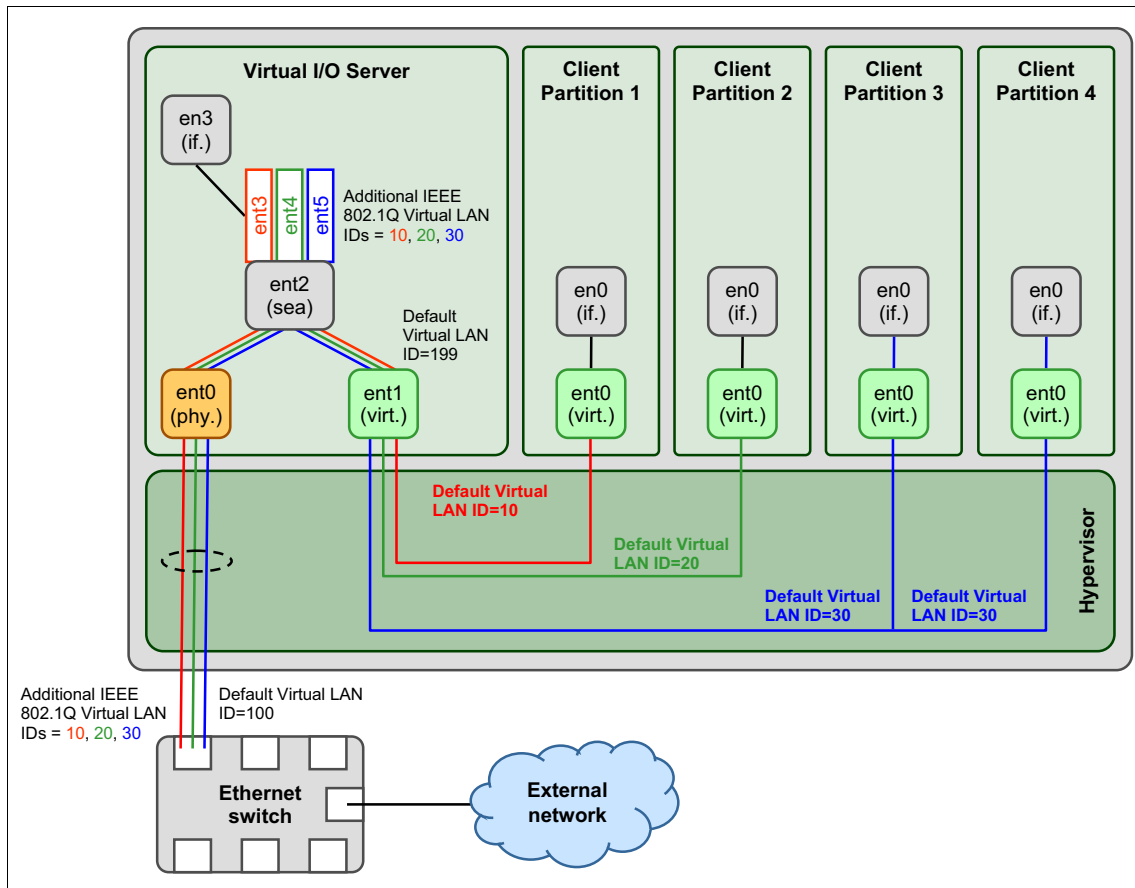
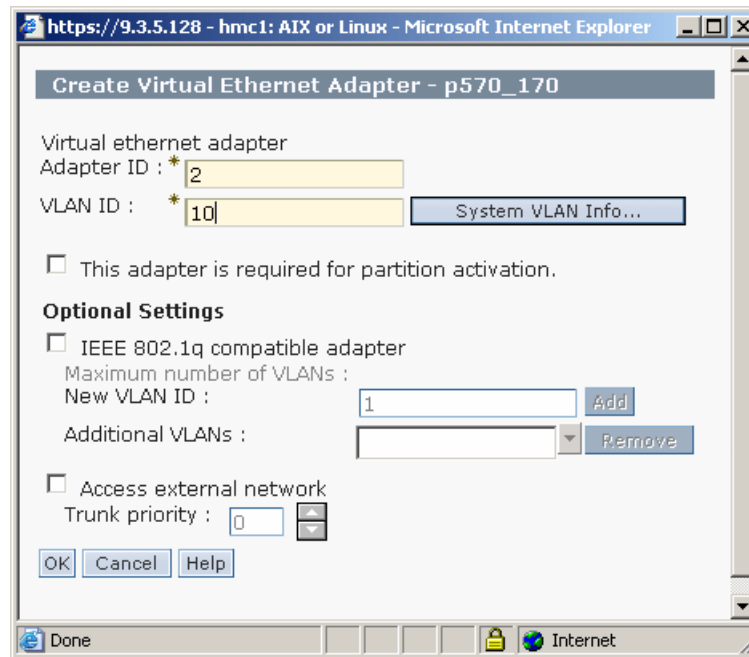

Figure 16-68 VLAN configuration scenario
Figure 16-69 Virtual Ethernet configuration for the client partition using the HMC
Figure 16-68 shows four partitions and a single Virtual I/O Server. In this example the VLAN interfaces are defined on an SEA adapter so that the Virtual I/O Server can communicate on these VLANs.
The following VLAN IDs 10, 20, and 30 are used. In addition, the default VLAN ID 199 is also used. This default VLAN ID must be unique and not used by any clients in the network or physical Ethernet switch ports, as in Figure 16-68. For further details, see “Ensuring VLAN tags are not stripped on the Virtual I/O Server” on page 586.
3. In the virtual Ethernet adapter window, assign each client partition a virtual Ethernet adapter with a default VLAN ID, as shown in Figure 16-68 on page 583. Make sure both the Access external network and IEEE 802.1Q compatible adapter flags are disabled. Figure 16-69 here shows an example of creating a virtual Ethernet adapter for client partition 1.
After the configuration completes, the VLAN ID on the virtual Ethernet adapter is added to the packets from the client partition. This ID is used to route packets to the correct partition. The Hypervisor will strip them off before delivery. For example, as shown in Figure 16-68 on page 583, client partition 3 and client partition 4 have the same VLAN ID, and thus are able to communicate directly. Client partition 1 and client partition 2 have different VLAN IDs, and thus are unable to communicate with client partition 3 and client partition 4 or with each other, but are ready to communicate with other machines on VLANs external to the machine.
The Virtual I/O Server is the relay point between multiple internal VLANs and the external physical Ethernet adapter or adapters and LAN. To bridge the virtual and physical networks, the Shared Ethernet Adapter (SEA) device is used to link one or more virtual adapters to the physical adapter. Using the scenario in Figure 16-68 on page 583, we implement a single virtual Ethernet adapter connecting to multiple internal VLANs.
3. Using the **mktcpip** command or the **cfgassist** command, configure an IP address on one of the new VLANs to allow administrators network access to the Virtual I/O Server. In this scenario, as shown in Figure 16-68 on page 583, we use en3, which resides on VLAN 10, to configure an IP address for Virtual I/O Server network connectivity.